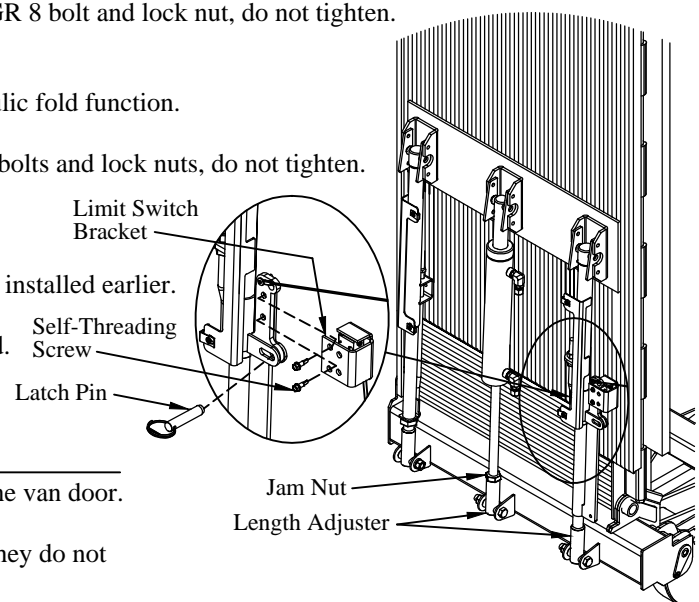

Figure 16: Platform latch and adjustment.
Make sure that the limit switch is not in the pushed position (Figure 16).
3. **Support** the platform to keep it from falling or hitting the van in the next step (Figure 16).